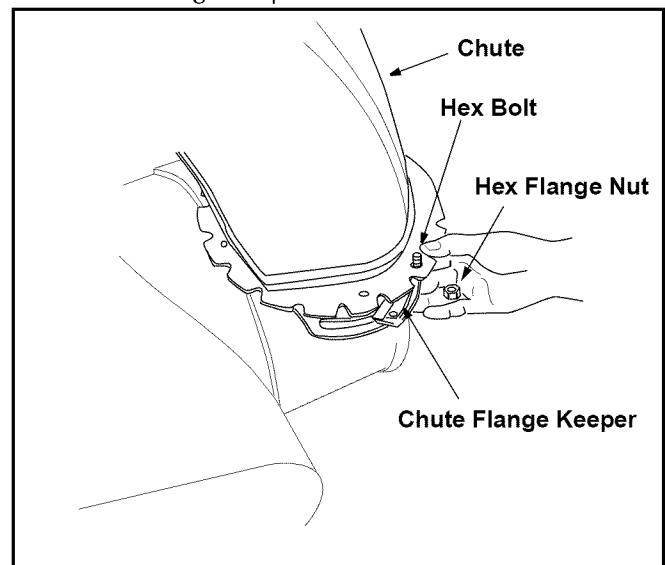

Figure 8
- Place the chute flange keeper (flat side down) beneath lip of chute assembly as shown in Figure 8. You will find the chute flange keepers in group C of the hardware pack.
- Insert 1/4-20 x.75” hex bolt and flange nut (group C of the hardware pack) up through chute flange keeper and chute assembly as shown in Figure 8. Do not tighten at this time. Rotate chute to install all the flange keepers.